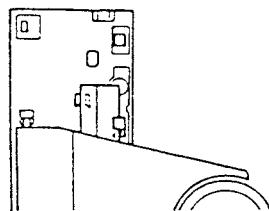

Fig. 9-8
3. Insert the slide base so that it fits into the two hard resin fittings at the rear of the loading base (see Fig. 9-8).